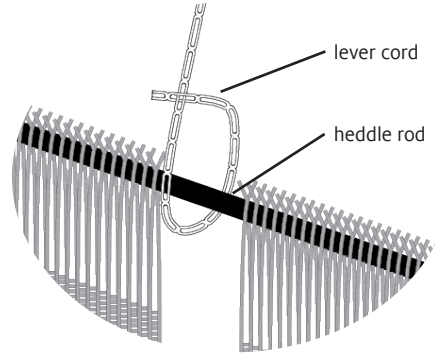

FIGURE 9: INSTALL LEVER CORDS
14. Install a lever cord on the upper heddle rod of each shaft: Wrap one end of the cord around the heddle rod. Find the first complete hole in this end of the cord, then run the other end through it (Figure 9). Tighten the loop around the heddle rod.